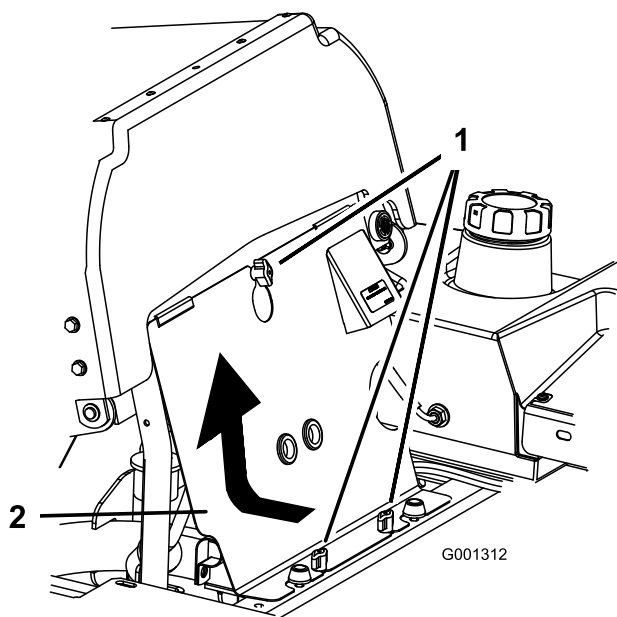

Figure 40
1. Tilt the seat forward and remove the front engine panel (Figure 40).